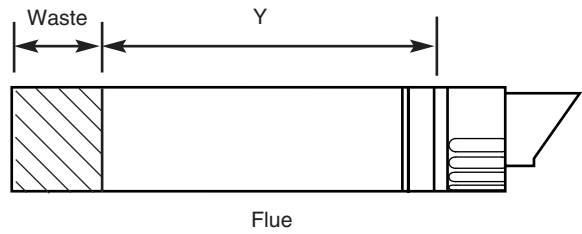

Fig. 19
5. Mark dimension 'Y' on the flue as shown (Fig. 19). Carefully cut the waste material from the flue, ensuring that the ducts are square and free from burrs.